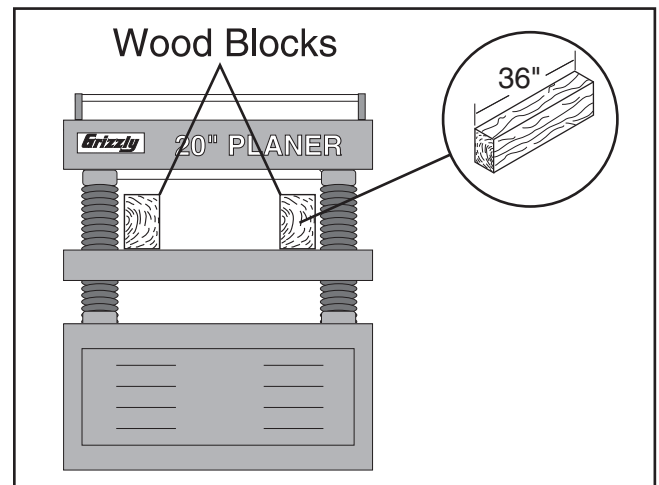

Figure 31. Wood blocks on table.
4. Place one wood block along the left side of the table, and place the other wood block along the right side of the table, as illustrated in **Figure 31**.